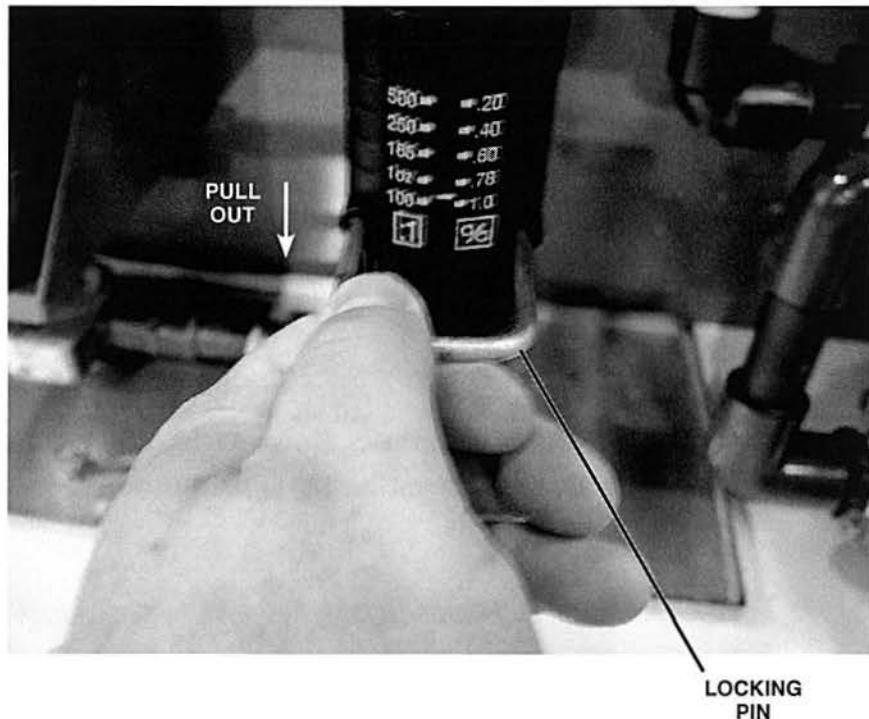

Figure 38. Removing the Locking Pin
- A. Locate the locking pin for the pump and remove it by pulling it out of the holes, as shown in figure 38.